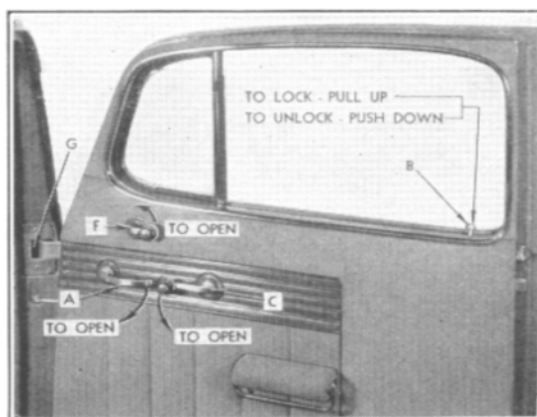

Figure 57
Ventilator wings—crank type are operated by turning handle (F), Fig. 57.